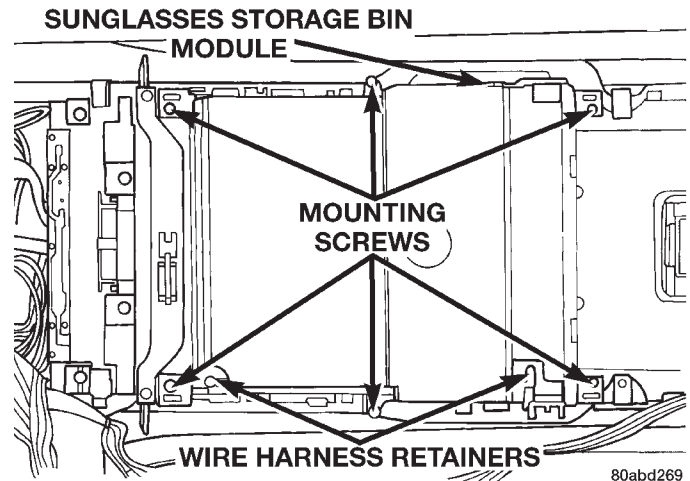

Fig. 6 Sunglasses Storage Bin Module Remove/Install
- (1) Remove the overhead console from the vehicle. See Overhead Console in this group for the procedures.
- (2) Disengage the overhead console courtesy lamp wire harness from the retainers molded into the sunglasses storage bin housing.
- (3) Remove the six screws that secure the sunglasses storage bin module to the overhead console housing (Fig. 6).
- (4) Remove the sunglasses storage bin module from the overhead console.